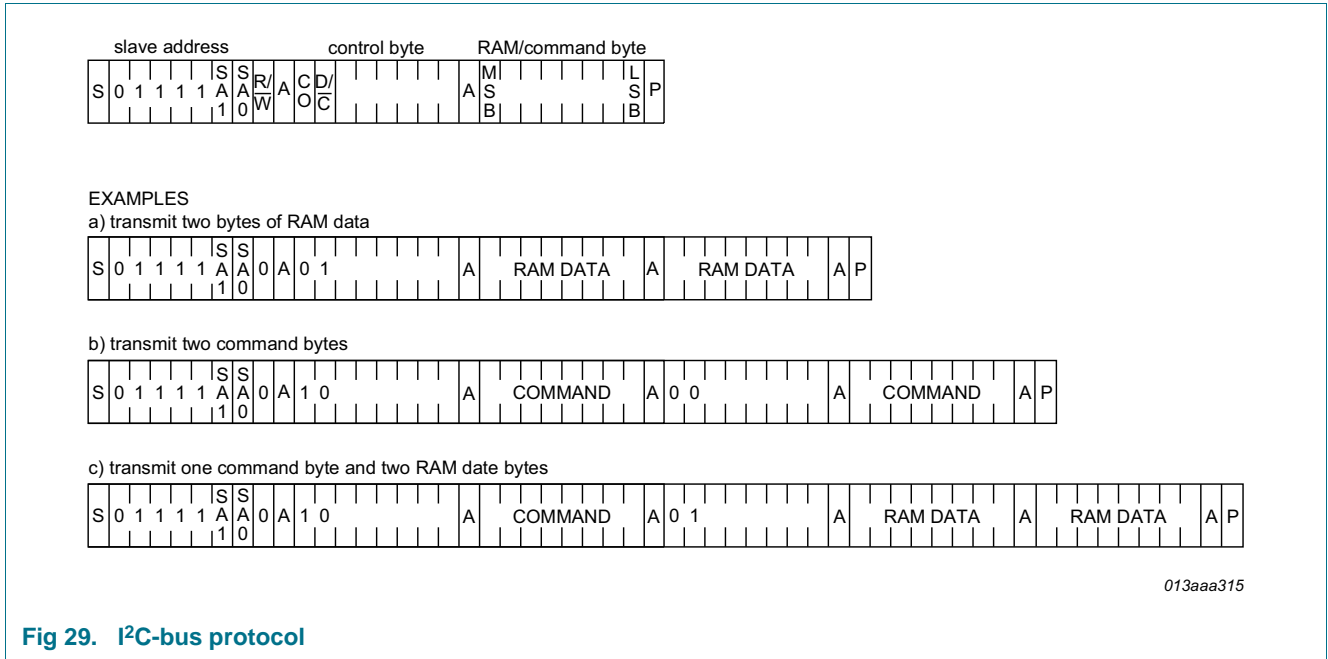
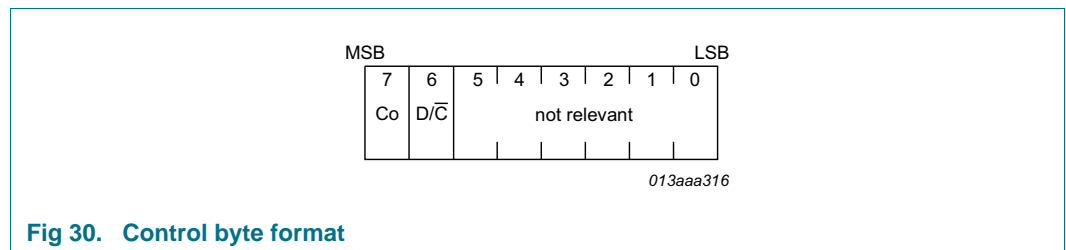

Fig 29. I²C-bus protocol
Fig 30. Control byte format
The I²C-bus protocol is shown in Figure 29. The sequence is initiated with a START condition (S) from the I²C-bus master which is followed by one of four possible PCF8811 slave addresses available. All slaves with the corresponding slave address acknowledge in parallel, all others ignore the I²C-bus transfer.
After acknowledgement, one or more command words follow which define the status of the addressed slaves. A command word consists of a control byte, which defines bit Co and D/C, plus a data byte (see Figure 29, Table 11 and Figure 30).